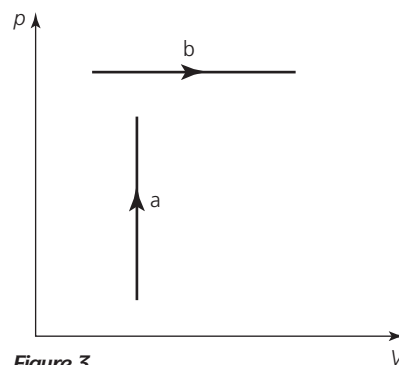

Figure 3
c. See Figure 3.
11. See Figure 3.